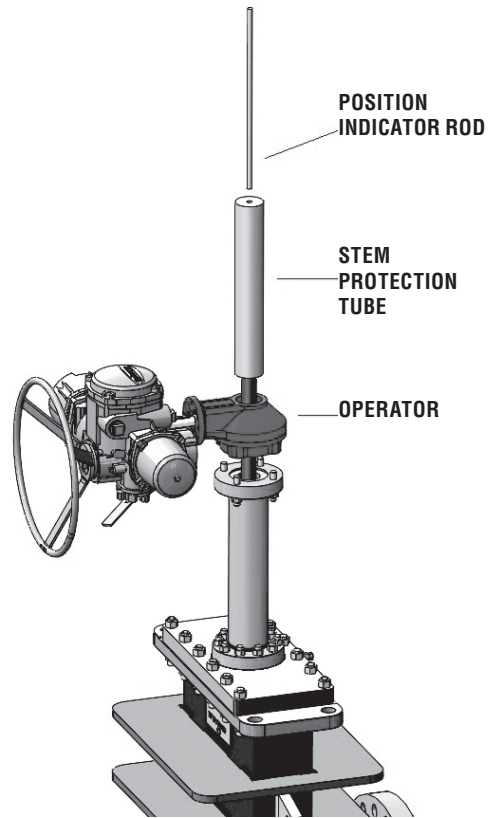

Figure 7 Operator removal sequence
7. Remove the operator, (gearbox or actuator) from the valve yoke (Figure 7)